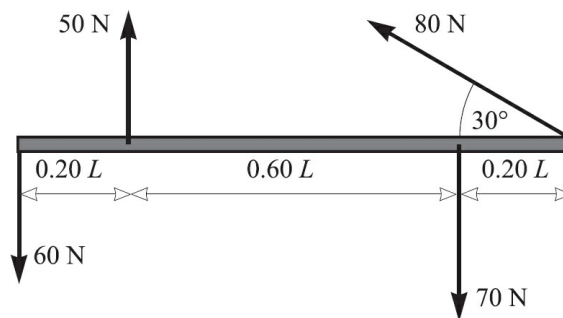

Fig. 5-18
5.28 [III] The uniform bar in Fig. 5-18 weighs 40 N and is subjected to the forces shown. Find the magnitude, location, and direction of the force needed to keep the bar in equilibrium.